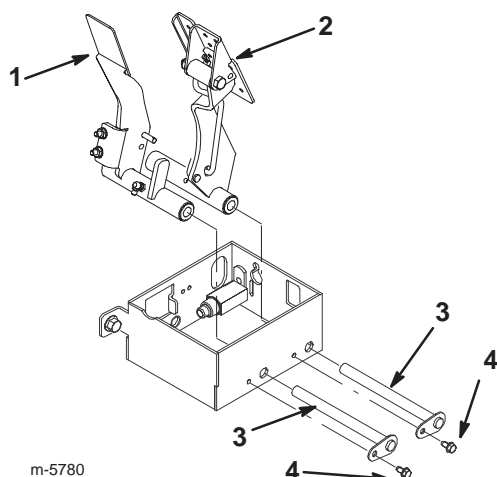

Figure 3
12. Insert the accelerator pedal assembly into the pedal box and secure it into the front position using a pivot rod removed previously (Fig. 3).
14. Secure the pivot rods with the 2 bolts removed previously (Fig. 3).
13. Insert the brake pedal assembly into the pedal box and secure it into the rear position using a pivot rod removed previously (Fig. 3).